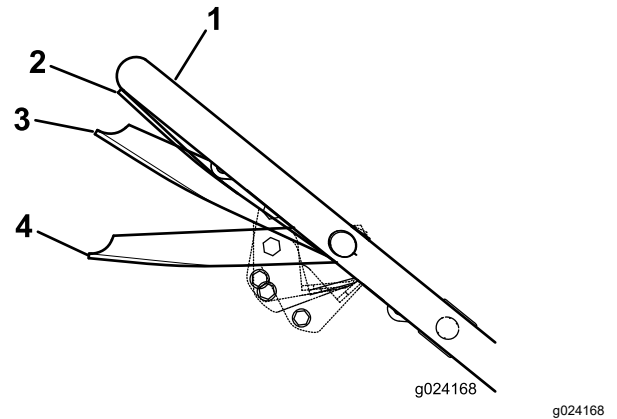

Figure 16
3. Squeeze the blade-control bar against the handle to the Run/Drive position (Figure 16).
Important: Shifting speeds while squeezing the blade-control bar against the handle in the Run/Drive position could damage the transmission. Move the blade-control bar to the Run/Shift position (Figure 16) whenever you change the ground speed.